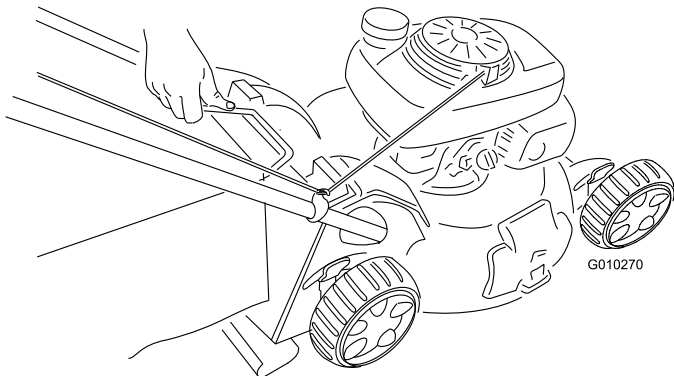

Figure 32
2. Lift the grass bag handle out from the grooves at the top of the mower and remove the bag from the mower (Figure 32).